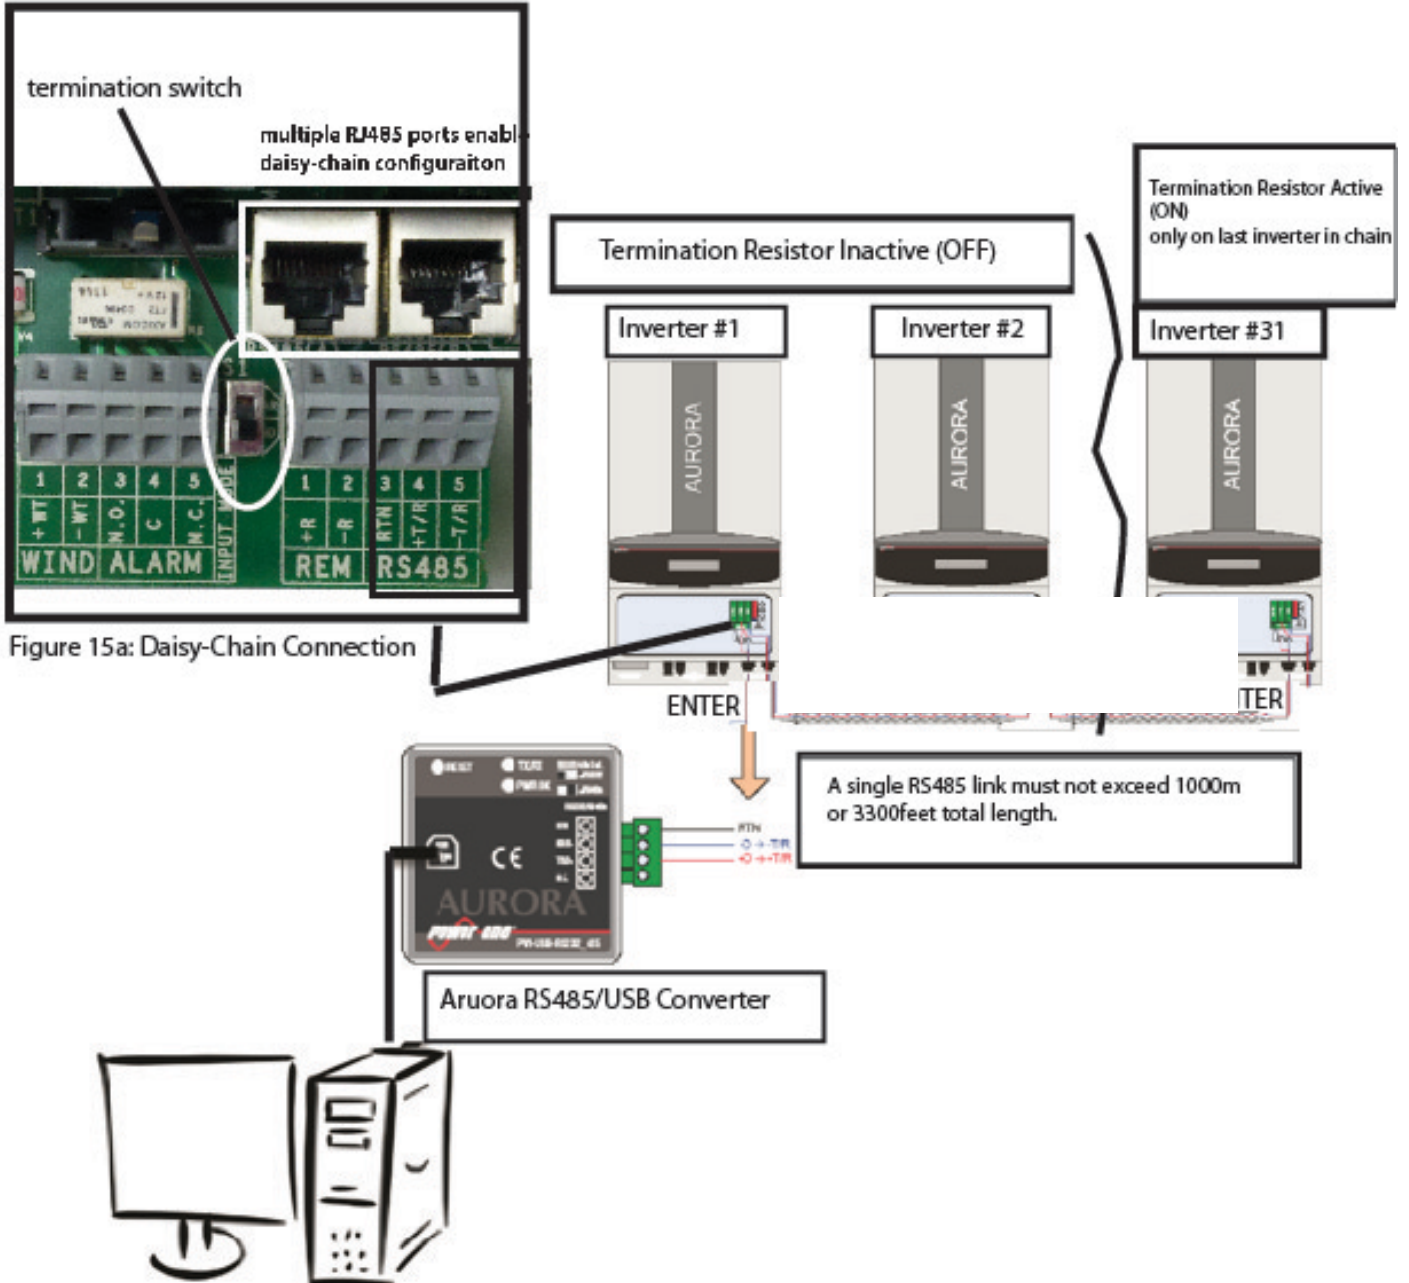

Figure 15a: Daisy-Chain Connection
The RS-485 terminal block or RJ45 connectors can be used to connect a single AURORA Inverter. This terminal block also enables a multi-unit wiring configuration called “daisy-chain configuration”. See shown in Figure 15a and 15b
STEP 1: Using the appropriate cable, connect all the AURORA Inverter units according to the “daisy-chain” cabling method ENTER- EXIT. Make sure to respect the correspondence between all the signals. See Figure 15a.
STEP 2: Locate the S2 switch. See Figure 15a. Push the switch **up** into the **OFF** position for every inverter in the chain except for the last inverter. The last inverter needs to have the S2 switch pushed **down** into the **ON** position.